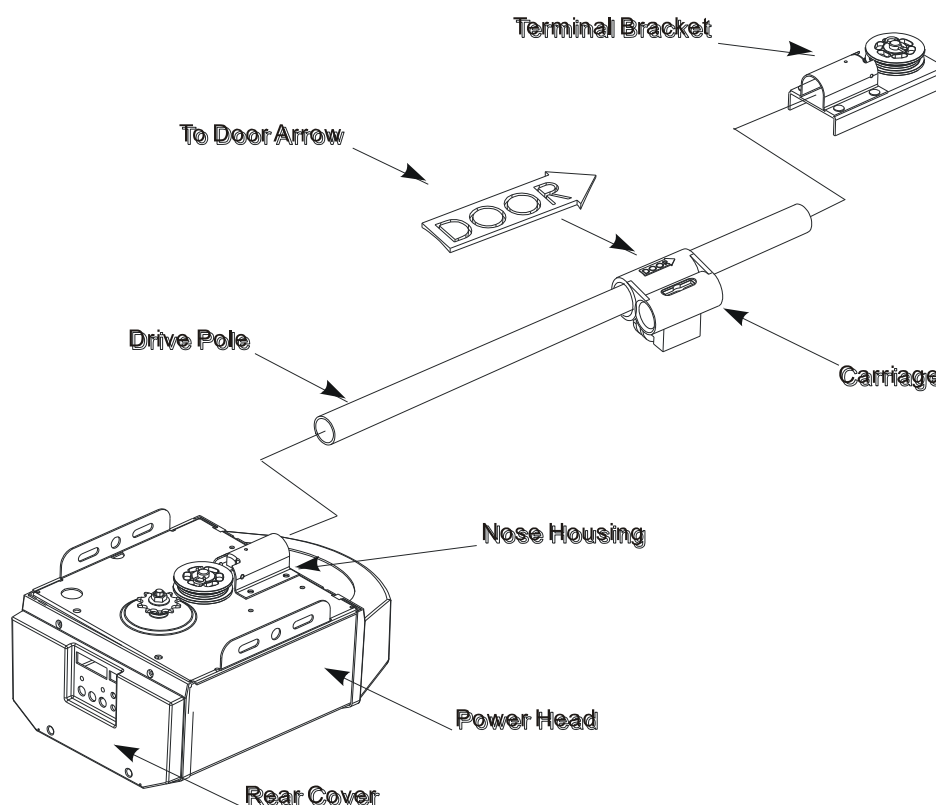

Fig 2
- On a clean, smooth surface, unpack the Power Head, Drive Pole, Carriage and Terminal Bracket (Fig.2) and place them end to end on the floor.
- Lay the assembled AGDO on the garage floor in line with the centerline of the garage door so that the Power Head (Fig.2) is furthest from the garage door.